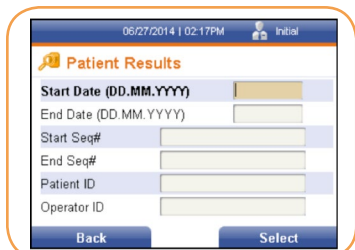

FIGURE 62
2. Press the right soft key to select it. The *Patient Results* screen is displayed (Figure 62).